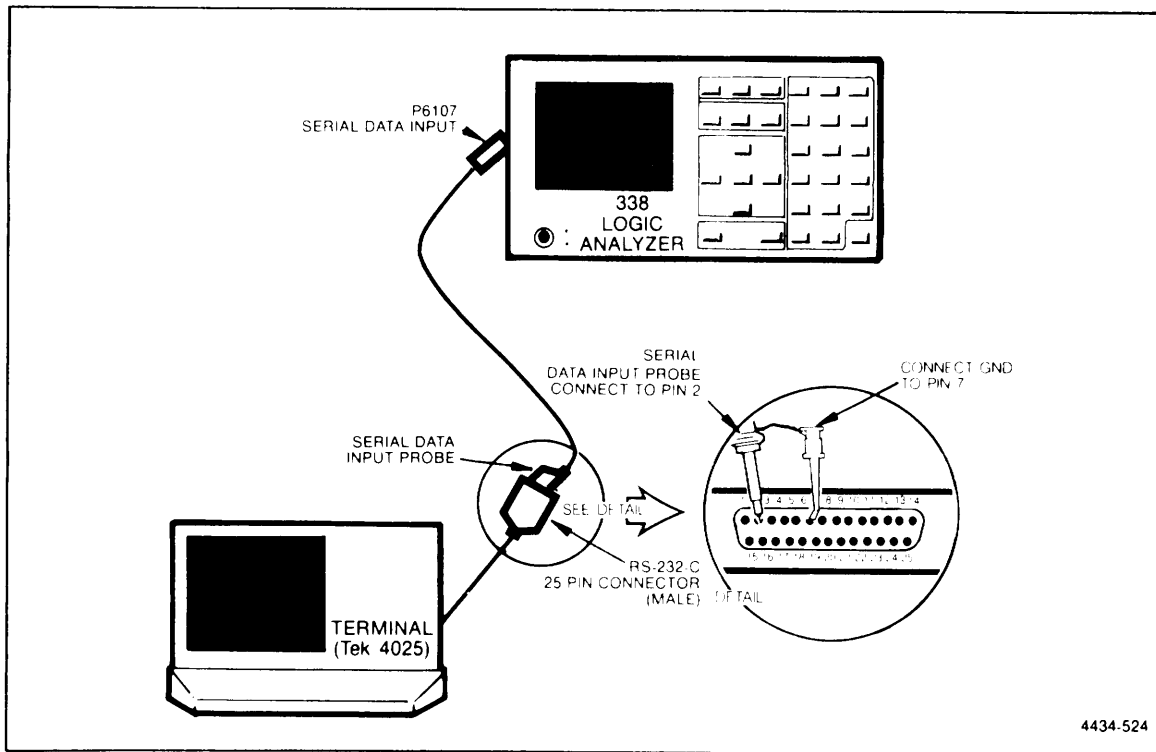

Figure 5-44. 338 Setup for serial data analysis.
- a. Connect test setup as shown in Figure 5-44.